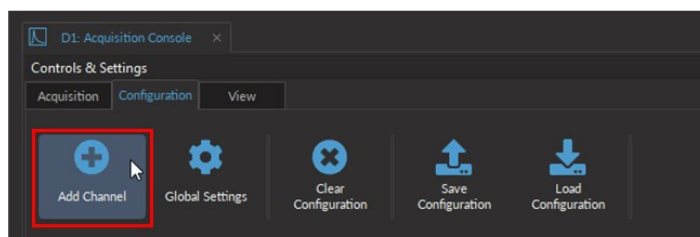
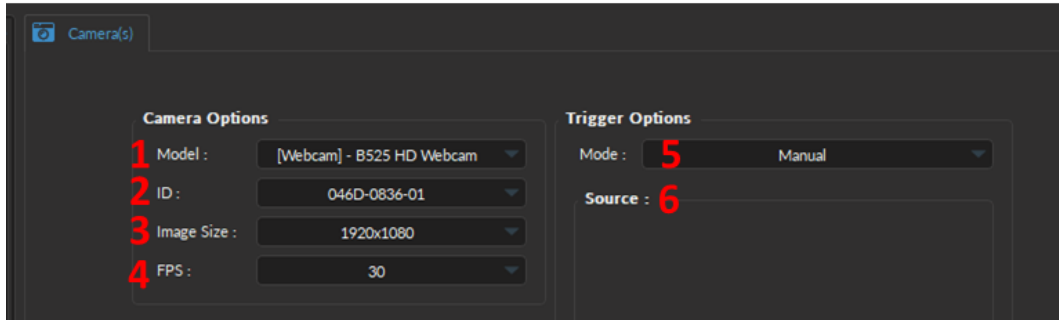

Figure 6.15: Add Channel button opens the Channel Configuration window
Figure 6.16: Channel(s) configuration window, Camera Channel
To create a **Camera Channel** in the **Acquisition Console** module, select the *Add Channel* button, which can be found under the *Configuration* tab (Fig. 6.15). This will open the *Channel(s) Configuration* window (Fig. 6.16).
1. The **Model** (Fig. 6.16, 1) allows you to select the camera of choice based on the type of camera.
2. **ID** drop-down list (Fig. 6.16, 2) selects a camera based on its unique ID. The ID is particularly useful if multiple cameras of the same model are required for the experiment.
3. The **Image Size** (Fig. 6.16, 3) sets the resolution of the image. The large the number of pixels used for width x height, the better the resolution. Currently, image size can range between 160x120 to 1920x1080 pixels.
4. The **FPS** (Fig. 6.16, 4) specifies the frame rate of the camera (i.e. the number of images displayed per second). FPS can be any value between 5 and 30 for web cameras and up to 60 FPS for the *Doric Behavior Camera*.
5. The **Mode** (Fig. 6.16, 5) sets the type of trigger that will control the camera. Depending on the type of camera, at most three modes are available:
6. The **Source** (Fig. 6.16, 6 & Fig. 6.18) is only used for the **External (Preconfigured)** mode and displays the **Digital I/O** channel with the preconfigured parameters that will be created at the same time as the **Camera Channel** (Fig. 6.18). For a detailed description of each Digital I/O parameter see the corresponding section in the Fiber Photometry System Manual (Section 5.4.3). Briefly, key parameters include: